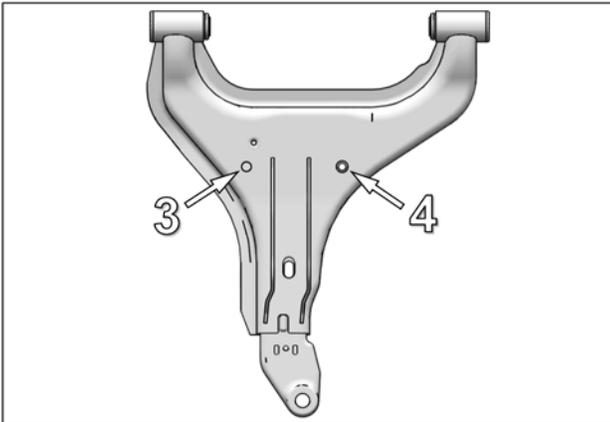

Fig. 14
5. Drill out existing holes (**3**) and (**4**) to  $\varnothing 8,5$  mm [ $\varnothing 11/32$ "]. Fig. 14